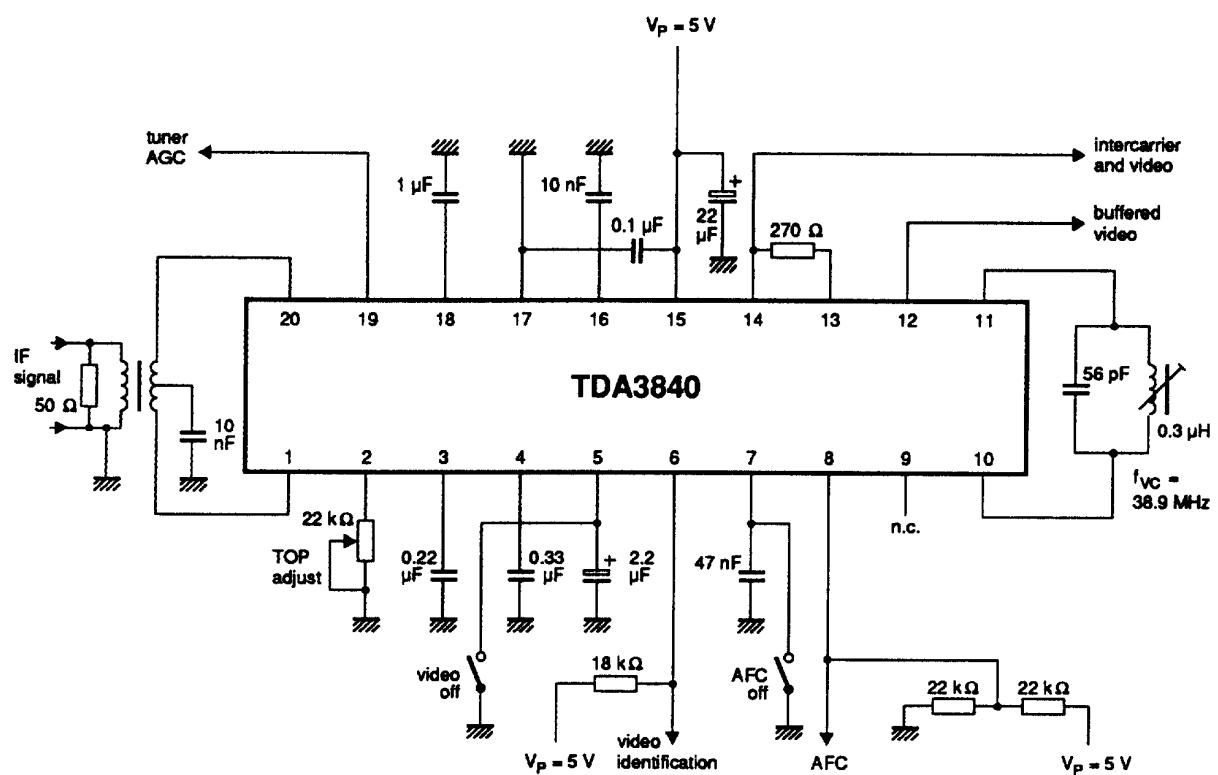

Fig.4 Test circuit.
3. IF input signals are RMS values measured at TOP sync (standard B/G) and with a vision carrier of 38.9 MHz (see Fig.4). The IF input signal is fed from 50 Ω via a 1:1 transformer, DSB, to pins 1 and 20. With a 10 mV_{RMS} IF input signal, the residual vision carrier is: = 10 % for white (standard B/G).
4. In the test circuit of Fig.4, measured and weighted according to CCIR Recommendation 567: